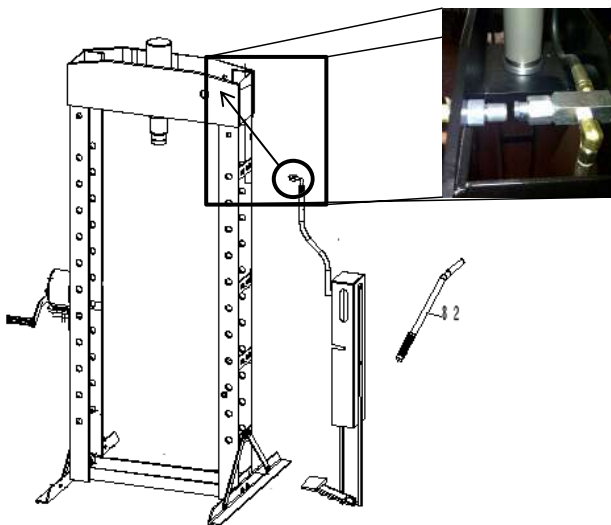

Fig. 11
- Assemble pump to the frame. Fig. 07 (WP15), Fig. 09 (WP20S), Fig. 11 (WP30P & WP50P).